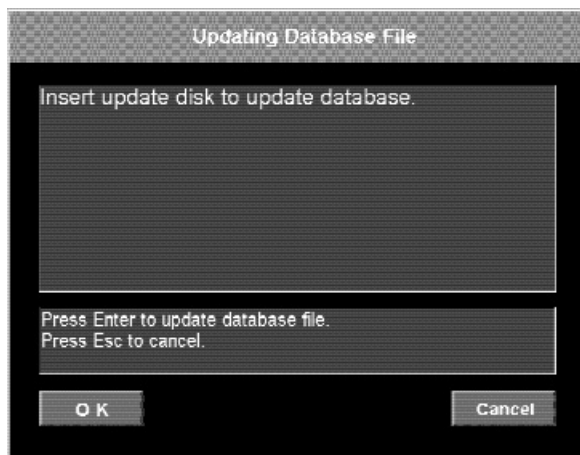

Fig. 13
① First menu
② Click to update database
6. Click the **OK** button or press the Enter key on your keyboard to start copying the database files. (Fig. 13)